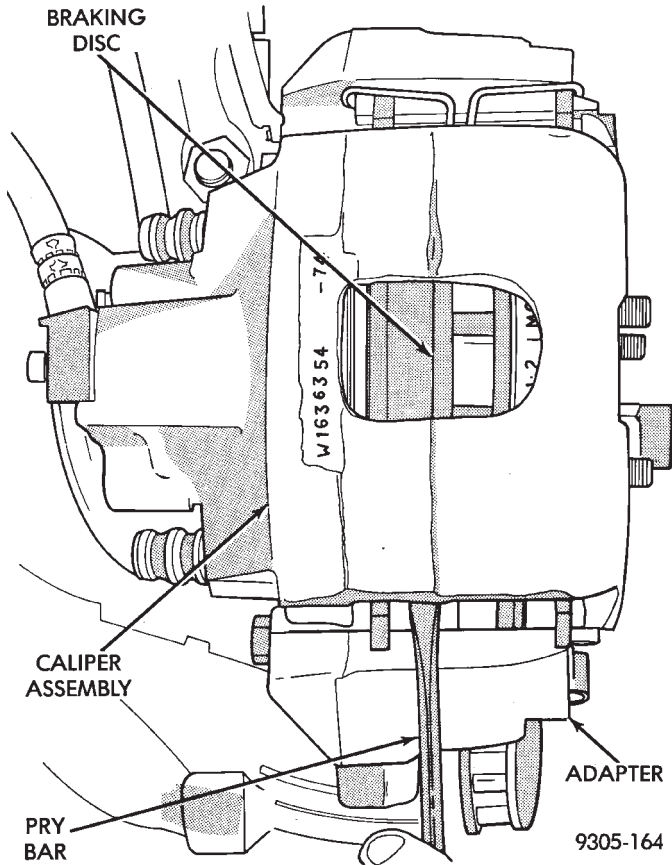

Fig. 2 Loosening Family Caliper Assembly From Adapter And Rotor
(5) After removing the caliper guide pin bolts. Lift caliper assembly away from the braking disc with a pry bar or screwdriver (Fig. 2).